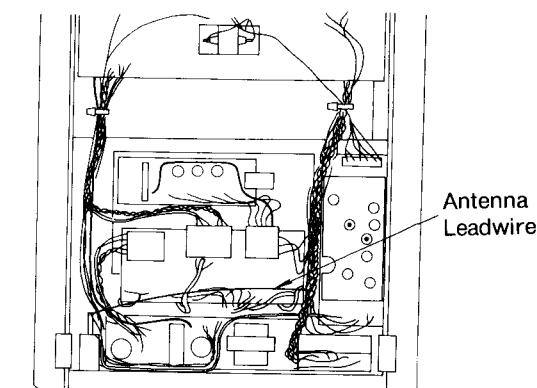

Fig. 14
*1. Please treat the leads as shown in Fig. 14.